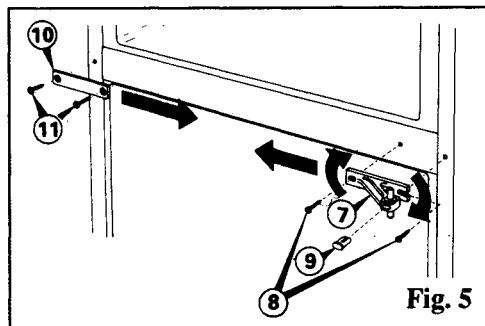

Fig. 5
Remove the bottom door by lifting it slightly and carefully sliding it down off the centre hinge (7) see Fig. 5. Remove centre hinge and washers (where fitted) by taking out the 2 securing screws (8). Access to the outer screw can be gained by inserting a screwdriver through the hole in the body of the hinge, after removing the plastic cap (9). Pull the hinge down out of the top door. The top door can then be removed by carefully sliding it down off the upper hinge pin. Remove the blanking plate (10) by taking out 2 screws (11). Refit the plate and screws on the opposite side.